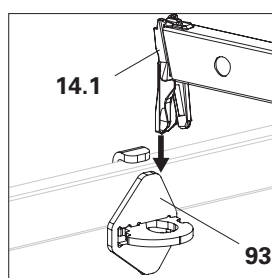

Fig. A11.06i
4. Hook the horizontal ledger (**14a**) from above into the Ledger-to-Ledger Coupler UHA (**93**). (Fig. A11.06i)